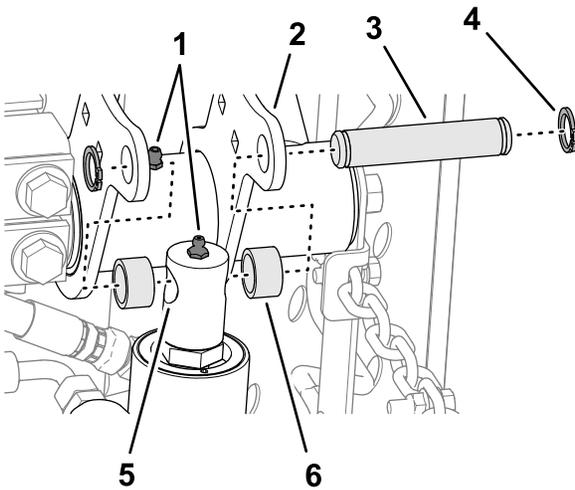

Figure 15
4. Slowly move the lift-cylinder rod until it aligns with the holes in the right lift-arm flanges (Figure 15).
5. Assemble the rod to the flanges with the mounting pin, 2 spacers, and 2 snap rings (Figure 15).
6. Apply No. 2 lithium grease to the grease fittings of the lift arm and the hydraulic cylinder (Figure 15).
- Align the holes in the plates of the rear-carrier frame with the holes in the cutting unit mounting plates (Figure 15).